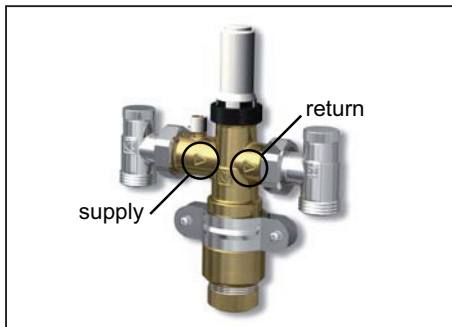

Figure 3. Direction of flow.
- Depending on where the LK Mini Loop Valve M5 is placed in relation to the inset point on the existing heating system, in certain cases, the floor heating pipes may cross. To avoid this, the mini circuit valve is reversible. Please note that the arrows on the valve housing indicate the direction of flow (see “Figure 3”).